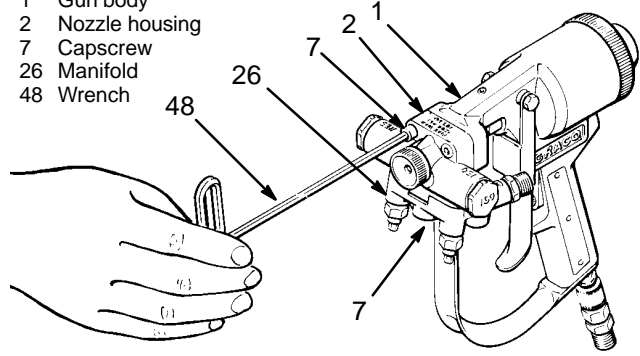

Fig. 4
1. Use the 3/16 in. wrench (48) to remove the capscrew (7) from the fluid manifold (26) and to remove the two capscrews (7) from the nozzle housing (2). See Fig. 4.
2. Trigger the gun, then pull the housing straight off the gun body (1).